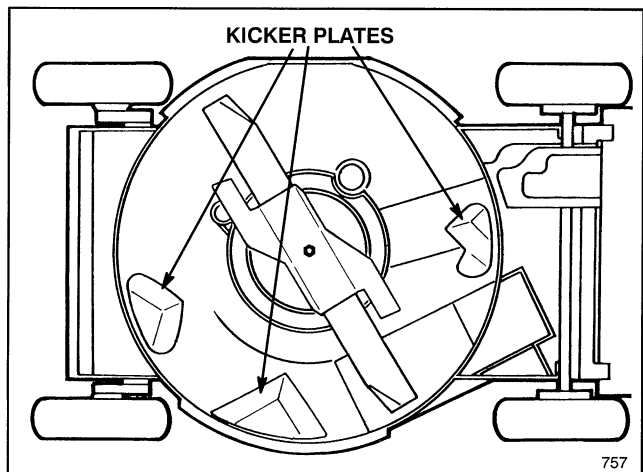

Figure 27
Keep underside of mower housing clean. Be especially careful to keep kickers free of debris (Fig. 27).
3. Tip mower on its right side (Fig. 27).